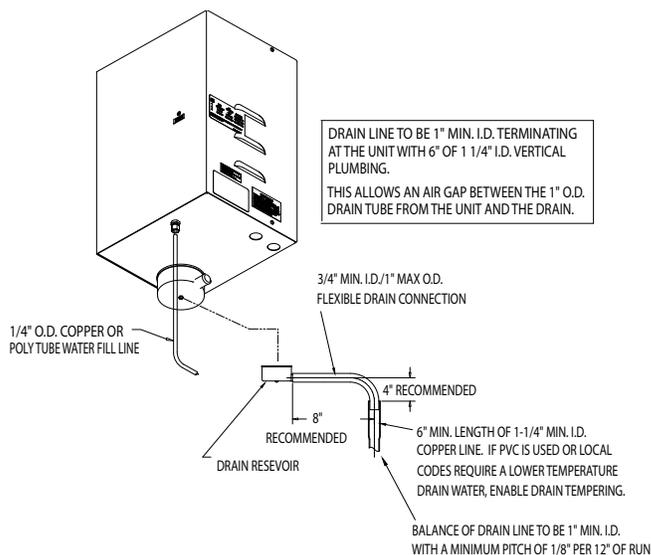

Figure 4
To make the necessary connections for water fill and drain, the following steps are required. (Refer to Figure 4 for locations)
4. Insert the other end of the tube into a minimum 6" vertical length of the 1-1/4" minimum I.D. drain line. The balance of the drain line should be 1" I.D. minimum with a minimum 1/8" per foot slope. (See Figure 4.)